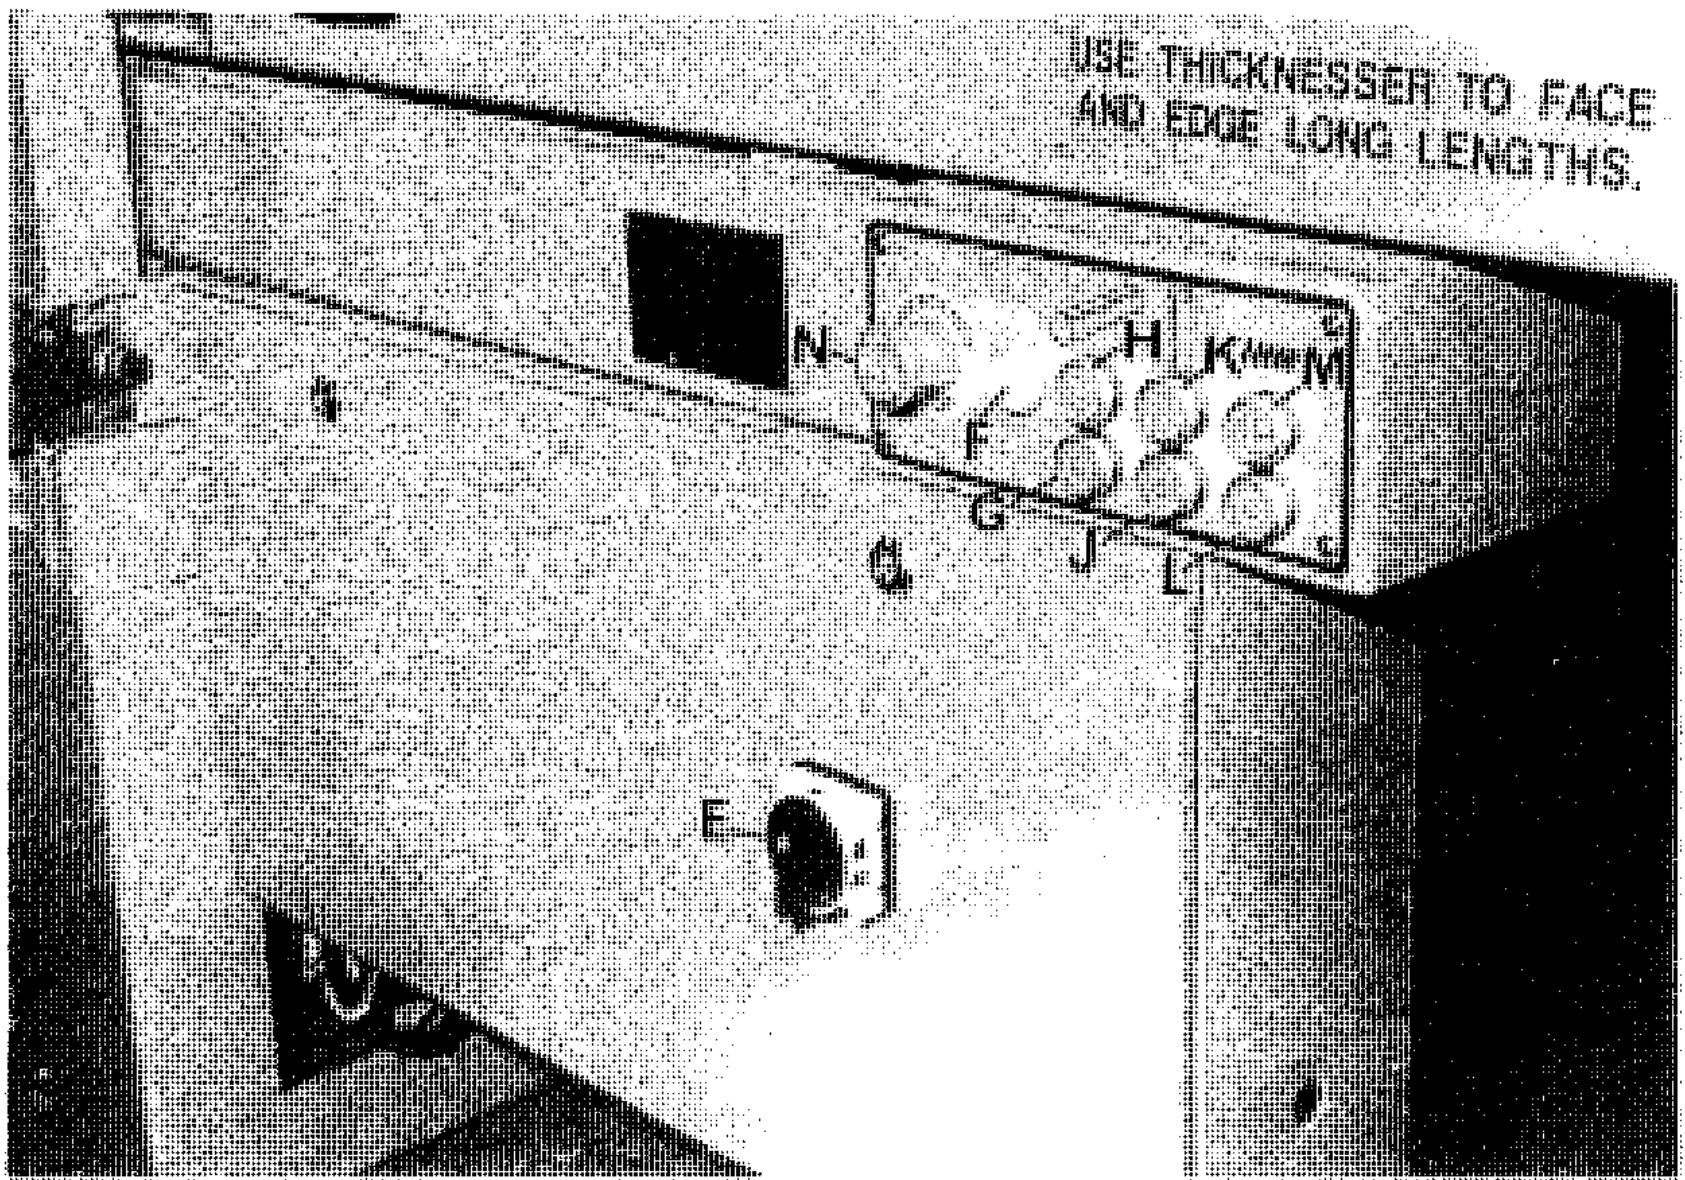
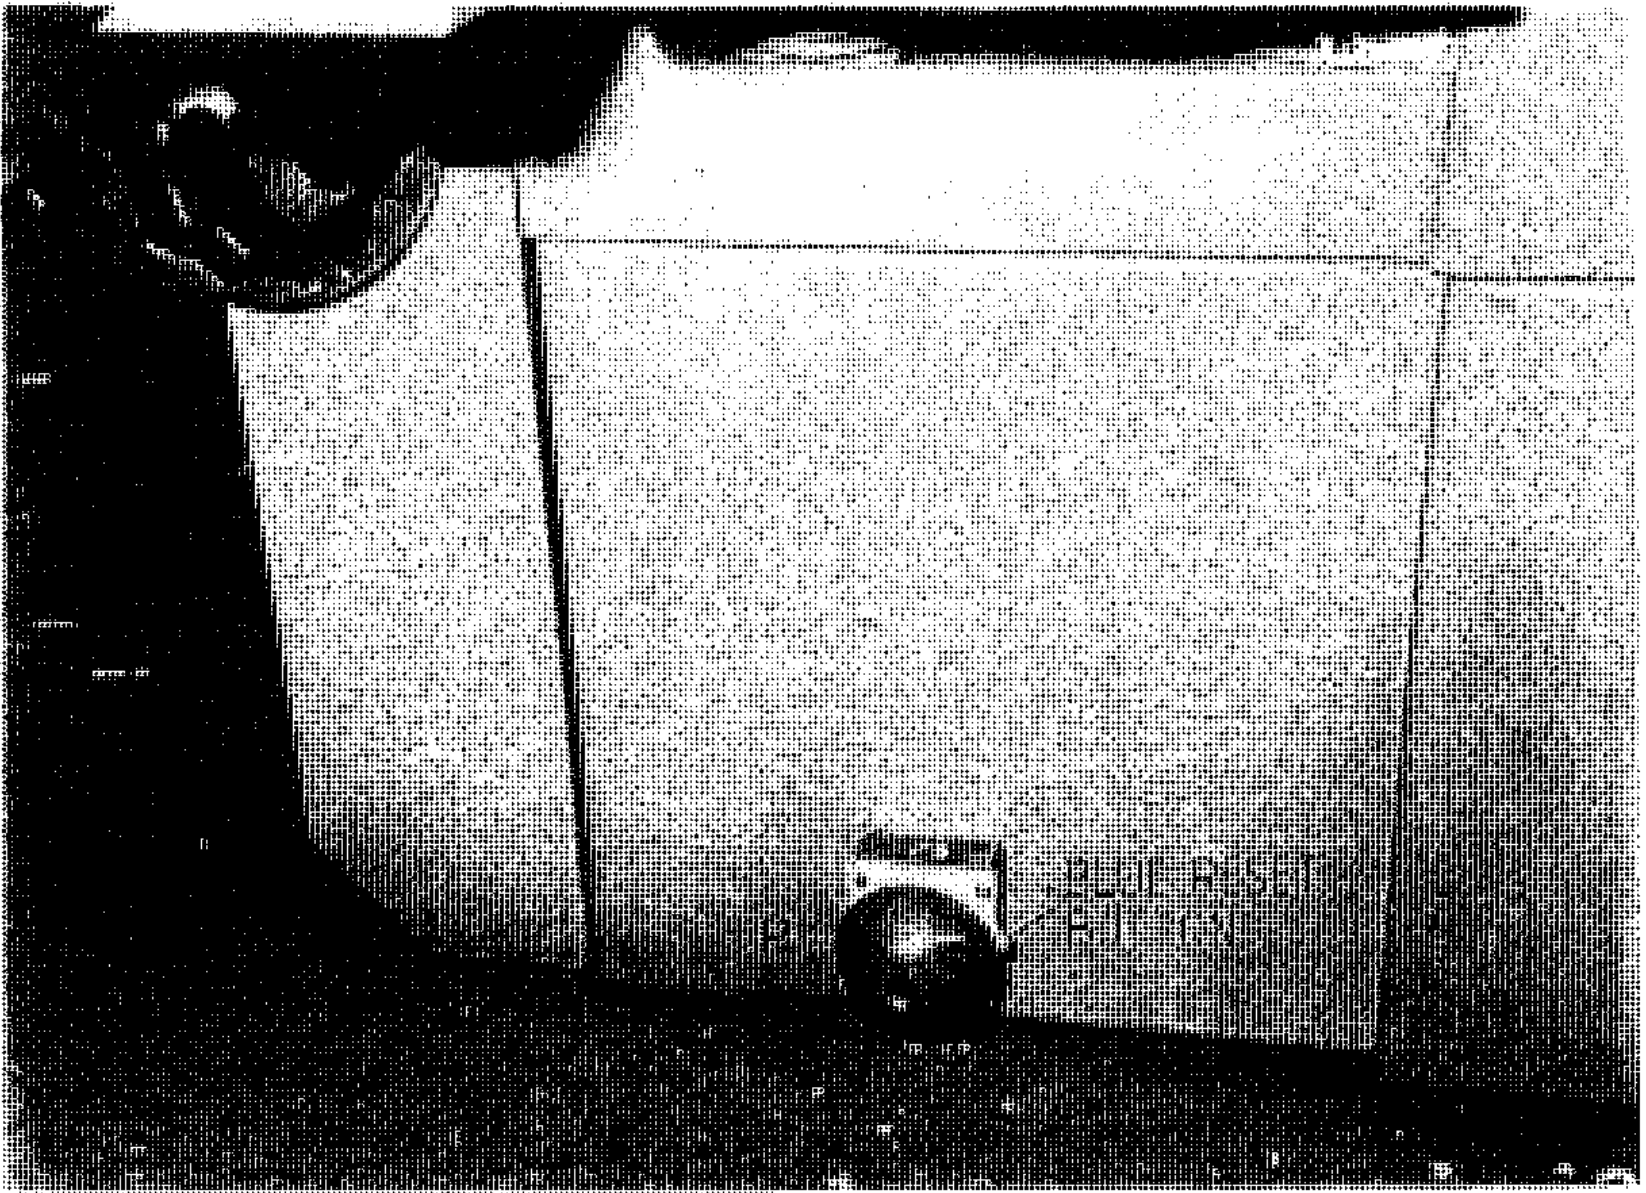

FIG.12
FIG.13
The control panel is shown in FIG.12. When isolator "E" is fitted, ensure it is in the "on" position before operating the machine.
Main cutterblock is controlled by stop and start buttons "G" and "H" FIG.12.
Side head cutterblocks are controlled by stop and start buttons "J" and "K" FIG.12.
Feed drive units are controlled by stop and start buttons "L" and "M" FIG.12.
A master stop button "N" FIG.12 is situated on control panel and an additional master stop button "P" FIG.13 is situated at floor level below thickening table fence bracket.
- c) To gain access to surfacer cutterblock, remove locking handwheel "T" FIG.13 and lift planer feed unit.